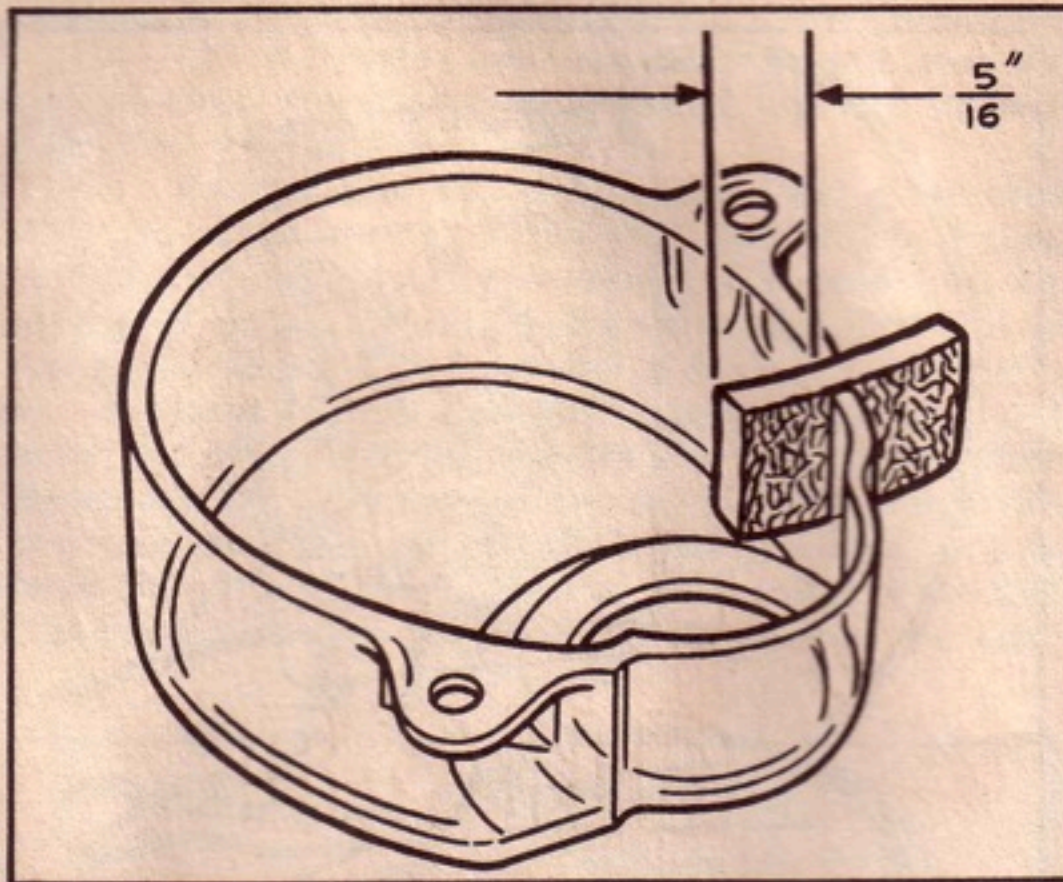

Figure B-6. Correct Position of Cam Follower
(1) Drain the oil and refill with new oil after 20 hours of normal engine operation. If the engine is operating under dusty conditions, the oil should be drained and refilled after 10 hours of operation, or when the oil appears dirty or diluted.
(2) Drain the oil in the reduction gear housing, if engine is so equipped, after each 100 hours of operation.
(3) Lubricate the cam follower lubrication felt whenever the magneto is serviced or cleaned. Always clean the felt by washing it in clean gasoline before saturating it with lubri-plate grease (or a bearing grease, as a substitute), and position it in accordance with Figure B-6.